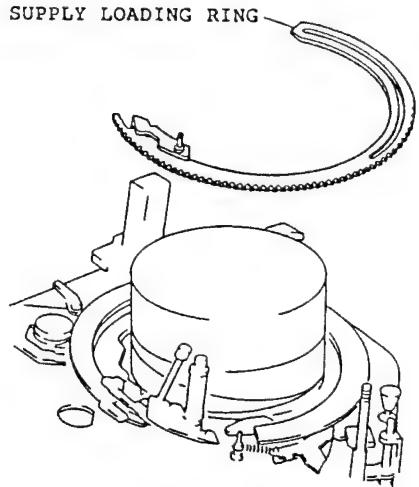

Fig. 2-89
(See Fig. 2-89)
18. Remove the supply loading ring. (See Fig. 2-89)